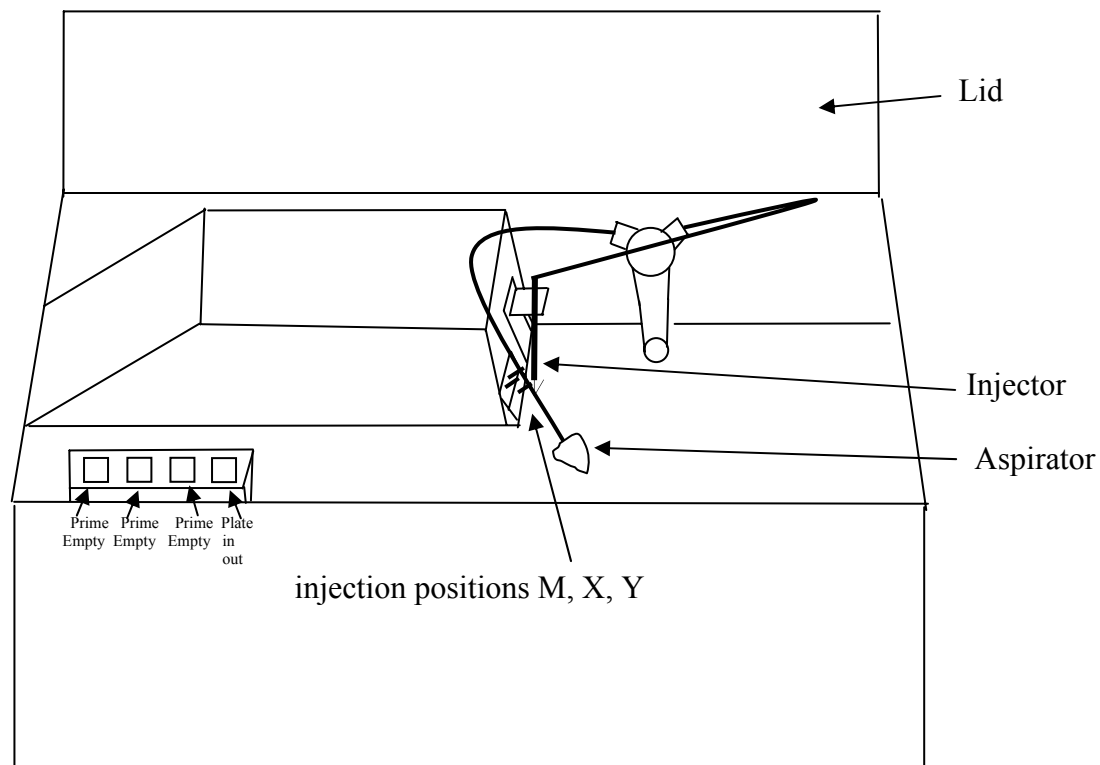

Figure 5. View of Lumiskan luminometer with lid open.
- 4.5.15 Prepare the luminometer for use near the end of the 1 hour incubation period as follows. Refer to the diagram of the luminometer below (Figure 5):